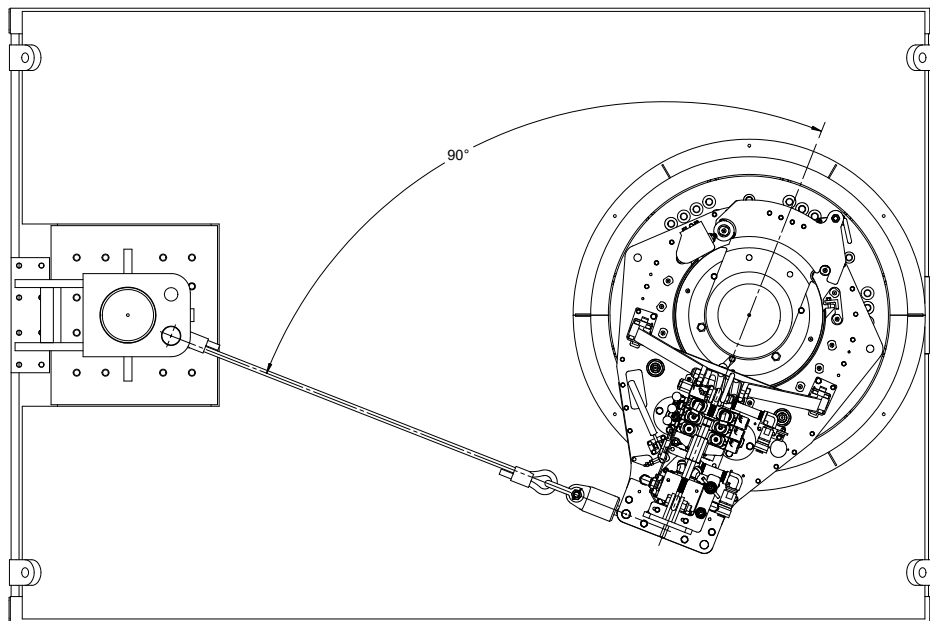

Figure 5
Once attached, the tether should be 90 degrees from the power unit centerline. Use a suitable length tether. See Figure 5.
- A. Attach the Power Unit hose to the Power Unit and the connection at the end of the skid (Figure 5).